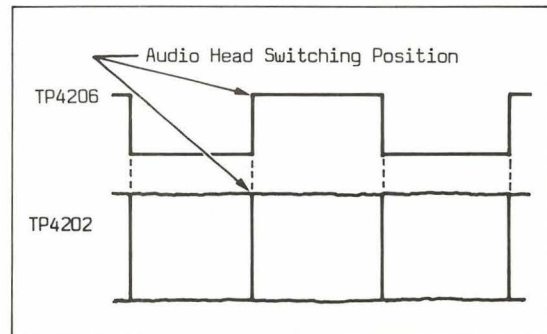
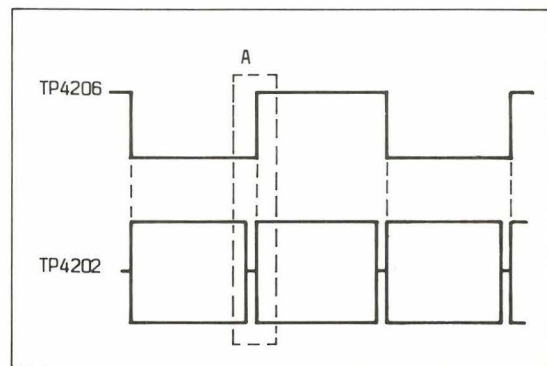

Fig. E10
Fig. E11
1. Play back the portion just recorded and confirm that the envelope at TP4202 is as shown in Fig. E10.
2. If the envelope has a drop out (A-portion in Fig. E11), adjust the AUDIO HEAD SW (R4281) so that the audio envelope has no drop out portion as shown in Fig. E10.